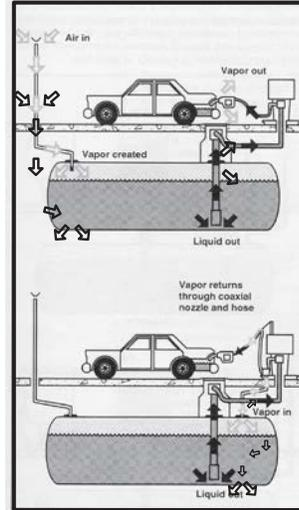

Figure 9, Stage II
1. All applicable gasoline dispensing facilities must be equipped with a California Air Resources Board (CARB) approved Stage II vapor recovery system. (*Figure 9, page 9*) CARB approved Stage II vapor recovery systems are issued as Executive Orders. CARB Executive Orders for Stage II systems are at arb.ca.gov/vapor/eo.htm.